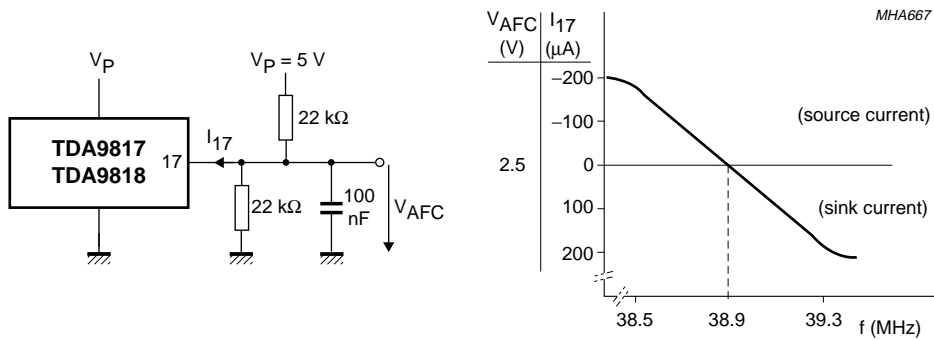

Fig.7 Measurement conditions and typical AFC characteristic.
- To match the AFC output signal to different tuning systems a current source output is provided. The test circuit is given in Fig.7. The AFC-steepness can be changed by the resistors at pin 17.